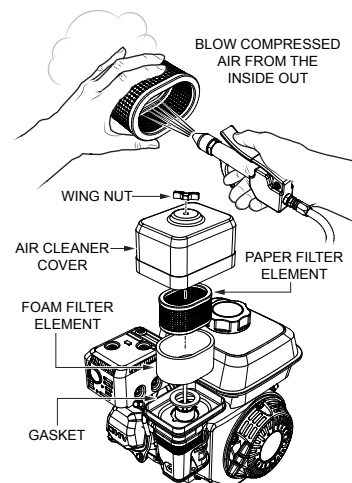

Figure 22. Engine Air Filter
The Honda GX120UT2SM12 engine is equipped with a replaceable, high-density paper air cleaner element. See (Figure 22) for air cleaner components.
- Blow compressed air through the air cleaner cover as shown in (Figure 22). Clean inside of air filter cover with warm, soapy water or nonflammable solvent. Rinse and dry thoroughly.